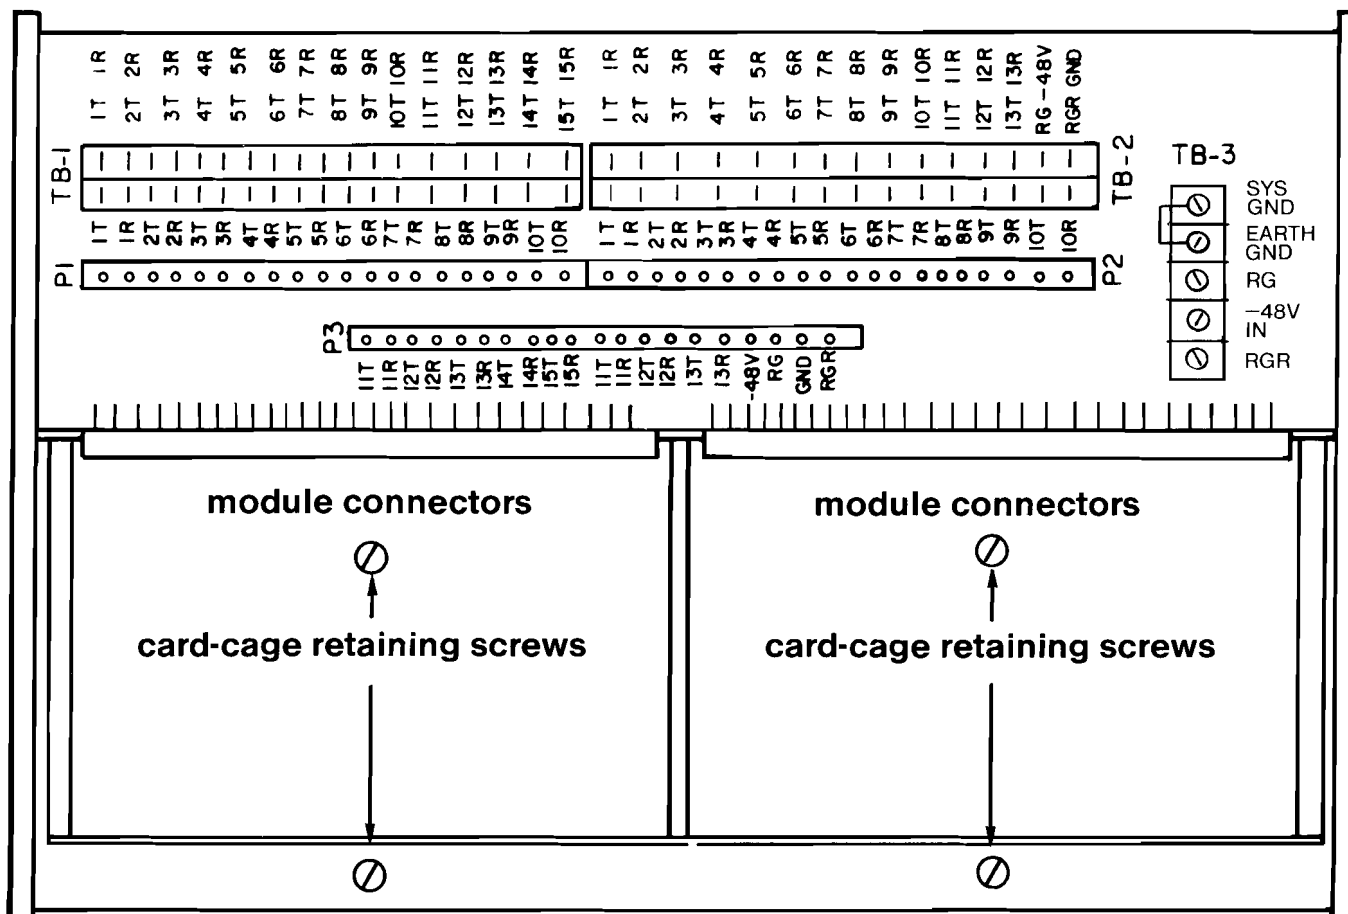

figure 2. 1914XX terminal block locations
2.06 All wiring associated with a 1914XX case is performed in four basic steps: First, all required connections (if any) are made between the four Type 10 modules (intermodule wiring). Next, connections from the modules to the facility are brought out to terminal strips *P1*, *P2*, and *P3* (internal wiring). Then, connections to the external equipment are made at quick-connect terminal blocks *TB1* and *TB2* (external connections). Finally, the required power and ringing connections are made. Detailed instructions for wiring the 1914XX case are given in paragraphs 2.07 through 2.11. Terminal block locations and pin designations for the 1914XX case are shown in figure 2.
2.07 Intermodule wiring connections are made by wire-wrapping jumpers between the 56-pin module connectors. Refer to each individual module's practice to determine the leads that must be connected between the modules, and install the jumpers as required. The card cage that houses the four modules is hinged and must be raised to provide sufficient working space for making the wire-wrapped connections to the 56-pin connectors. To do this, remove the four retaining screws (see figure 2). Then turn the metal tabs located on each side of the card cage's lower lip outward to hold the card cage in the raised position.